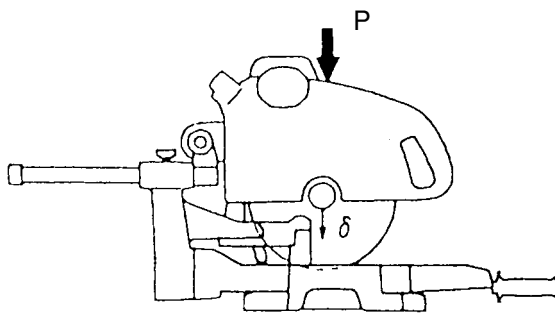
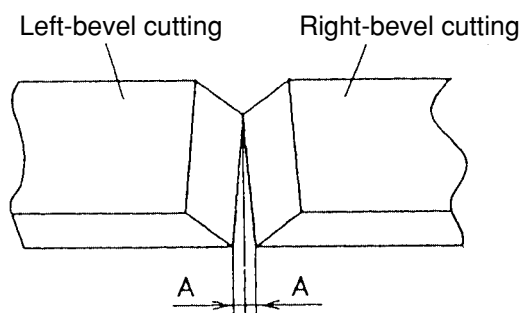
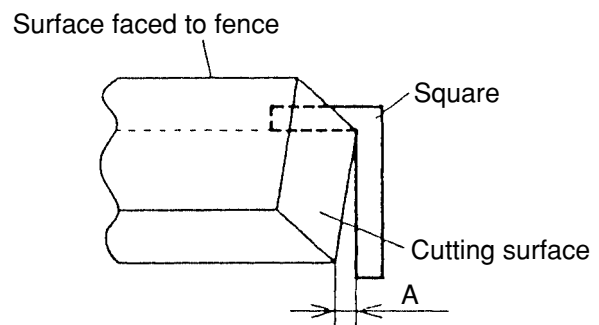

Fig. 18
Fig. 20-1
Fig. 20-2
(10) Excellent cutting accuracy
The turn table, holder (A), and gear case are stiffened to improve the cutting accuracy. (Refer to Figs. 18 and 19 for comparison of flection when the load (P) is applied to the head.) If their stiffness is low, the forward portion of the workpiece is lowered by the weight of the saw blade and the saw blade is raised gradually when sliding backward. Therefore, dimensions "A" shown in Fig. 20-1 and Fig. 20-2 are widened and the accuracy when bevel cutting becomes bad. C 12FSA can provide high accuracy as shown in Table 10 at 45° bevel cutting with a workpiece 240 mm (9-7/16") in width.